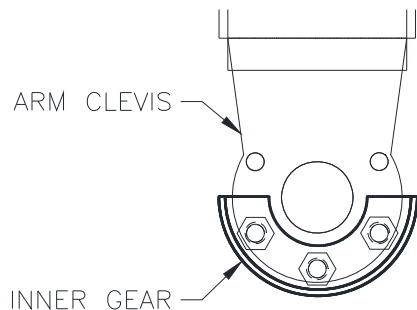

Fig 20 – Symmetric Inner Gear
- 38) For Asymmetric installation, skip to step 39. Ensure the Inner Gear is positioned on the arms as shown in **Fig 20**. Lubricate the Arm Pin or carriage arm pin hole with “anti-seize” and install the arms. Place snap ring in groove on bottom of arm pin. Ensure that the arm restraint gears engage and disengage properly. Arm restraint gears should disengage completely when lift is fully lowered. When gears are engaged, Outer Gear should lower enough for top of teeth to be level with top of Inner Gear teeth. If any binding occurs, adjust Inner Gear as necessary.